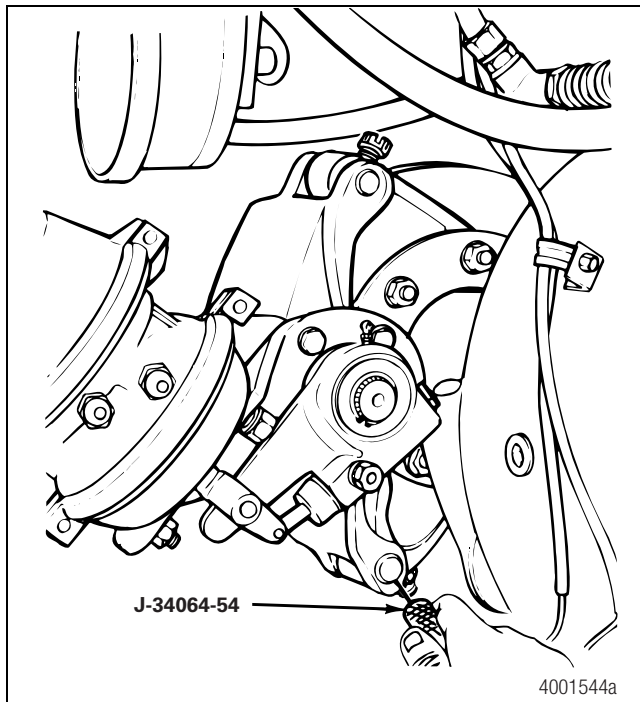

Figure 4.1
- Use a pin gauge (J-34064-54) to check for bushing wear. When the gauge fits between the slide pin and bushing, the slide pin or bushing is worn and must be replaced. Figure 4.1. To obtain the pin gauge, contact SPX Kent-Moore at 800-328-6657.